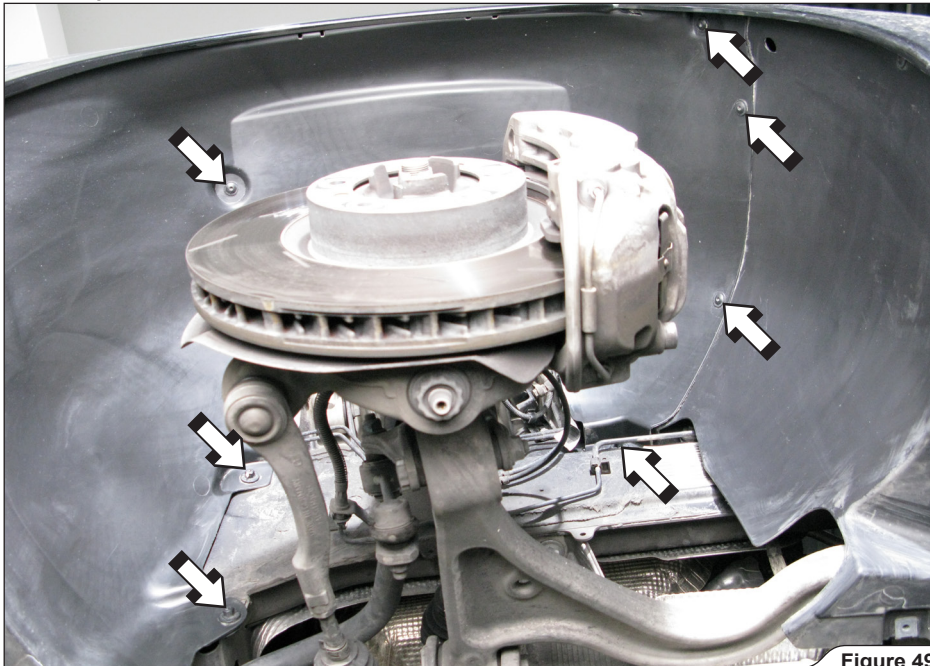

Figure 49
1. Remove the front right wheel. Unscrew the marked nuts and bolts and remove the wheel arch panel off the vehicle (**Figure 49**).